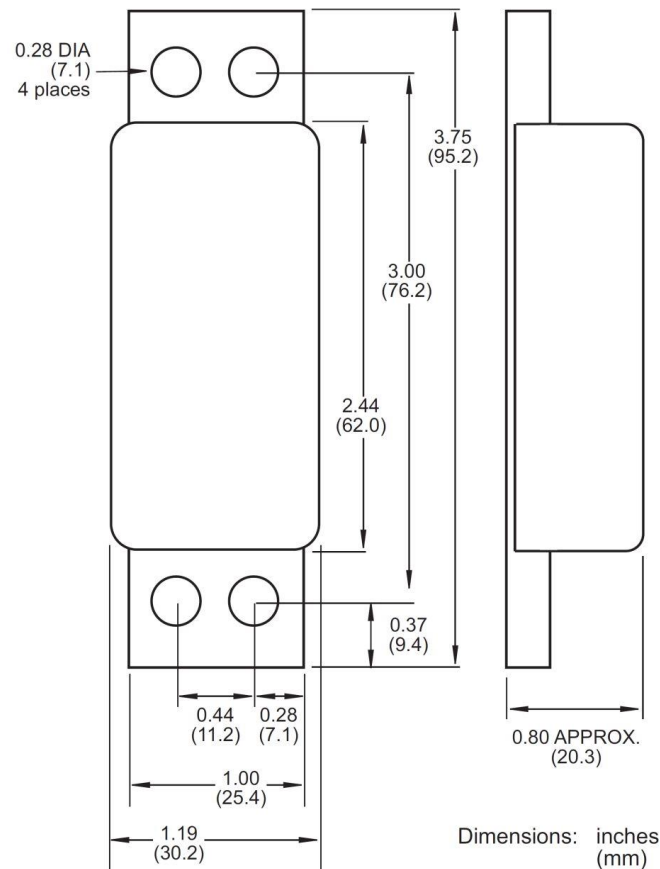

Figure 2-8. Strain Link: Mounting Dimensions
- Connect the ground (green or green/yellow) wire to the ground stud on the ceiling at the top right of the enclosure, as shown in Figure 2-8. To make the connection, strip the ground wire about 1/4" (6.4 mm) from the end, loosen the screw on the ground stud, slide the wire into the hole, and tighten the screw to pin the wire in place.
- Remove the connector from terminal block TB103 at the top right of the AutoSetPAC processor board, and connect the remaining AC wires as shown in Figure 2-8 and Table 2-1, page 38.
A ground wire is attached from pin #4 on the TB103 connector to a case lug, as shown in Figure 2-8. It is recommended that you not remove this wire while making connections, but if you do, make sure to reconnect it when you are done.